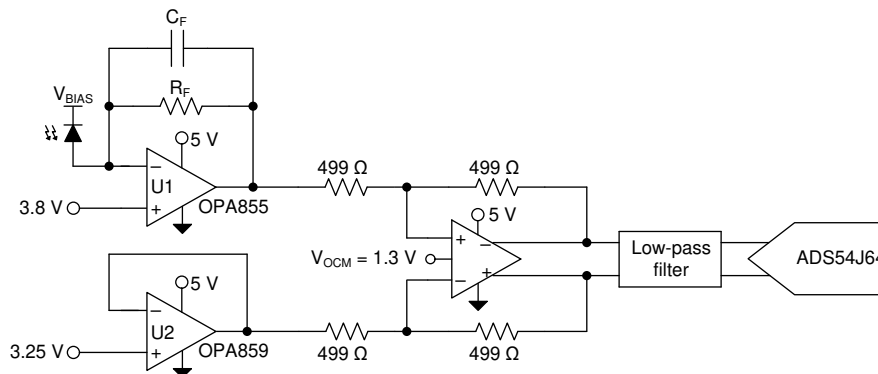
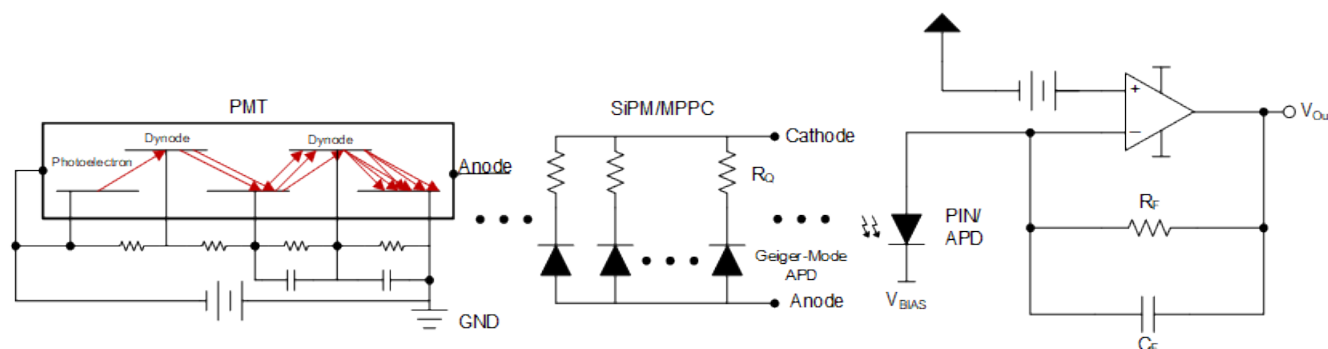

図 10-1. OPA855-Q1 as a TIA in an Optical Front-End System
Figure 10-5. Transimpedance Amplifier with APD or SiPM/MPPC or PMT Inputs
図 10-1 shows the OPA855-Q1 configured as a transimpedance amplifier (U1) in a wide-bandwidth, optical front-end system. A second amplifier, the OPA859-Q1, configured as a unity-gain buffer (U2) sets a dc offset voltage to the THS4520. The THS4520 is used to convert the single-ended transimpedance output of the OPA855-Q1 into a differential output signal. The THS4520 drives the input of the ADS54J64, 14-bit, 1-GSPS analog-to-digital converter (ADC) that digitizes the analog signal.
Figure 10-1 shows the OPA855-Q1 configured as a TIA, with the avalanche photodiode (APD) reverse biased so that the APD cathode is tied to a large positive bias voltage. In this configuration, the APD sources current into the op amp feedback loop so that the output swings in a negative direction relative to the input common-mode voltage. To maximize the output swing in the negative direction, the OPA855-Q1 common-mode voltage is set close to the positive limit; only 1.2 V from the positive supply rail. The feedback resistance ( $R_F$ ) and the input capacitance ( $C_{IN}$ ) form a zero in the noise gain that results in instability if left unchecked. To counteract the effect of the zero, a pole is inserted into the noise gain transfer function by adding the feedback capacitor ( $C_F$ ).
OPA855 offers 8 GHz of gain bandwidth, high slew-rate, and low noise which makes this device suitable for a wide range of photodetectors. Figure 10-5 shows the OPA855 configured as a transimpedance amplifier (TIA) in a wide-bandwidth, optical front-end system. Various types of optical sensors can be used as an optical input to the amplifier: photodiode (PD), avalanche photodiode (APD), Photomultiplier Tube (PMT), and Multi-Pixel Photon Counter (MPPC) or known as Solid-State Photomultiplier (SiPM). Optical detection applications have commonly used APDs, but ultra-low light source detection has been a challenge in past solutions. With technologies such as PMTs and MPPCs, their high intrinsic gain, while maintaining a fast output, requires a low noise, high-speed interface. The OPA855 can accommodate for these optical challenges and would work equally as well in these applications.
図 10-5 shows the OPA855 configured as a TIA, with the optical sensor reverse biased so that the diode cathode is tied to the positive bias voltage. A RC filter can be used at the reverse bias node as a low pass filter to eliminate high frequency noise. The internal capacitance of photodetectors will vary based on sensor type and the value of the applied reverse voltage. The setups between each sensor type will slightly differ, but the connection to the amplifier will be consistent throughout.
The DC voltage bias at the non-inverting input of the OPA855 shown in Figure 10-5 will set the common-mode voltage which will maximize the output swing of the system in mismatched power supply configurations. The DC bias is critical to avoid clipping or saturating the output stage of the amplifier. For the later stages, a fully differential amplifier (FDA) can be used to convert single-ended signal to a differential input to drive an analog-to-digital converter (ADC) as shown in Figure 10-1. Higher order filters can be added between the FDA and ADC for system noise reduction.